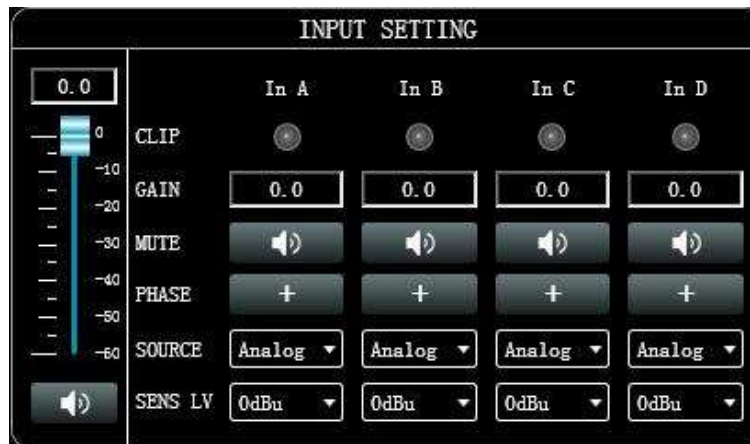

Figure 6.1.3
1. As shown in Figure 6.1.3,  is the total volume push button, you can use the mouse to drag, or you can directly